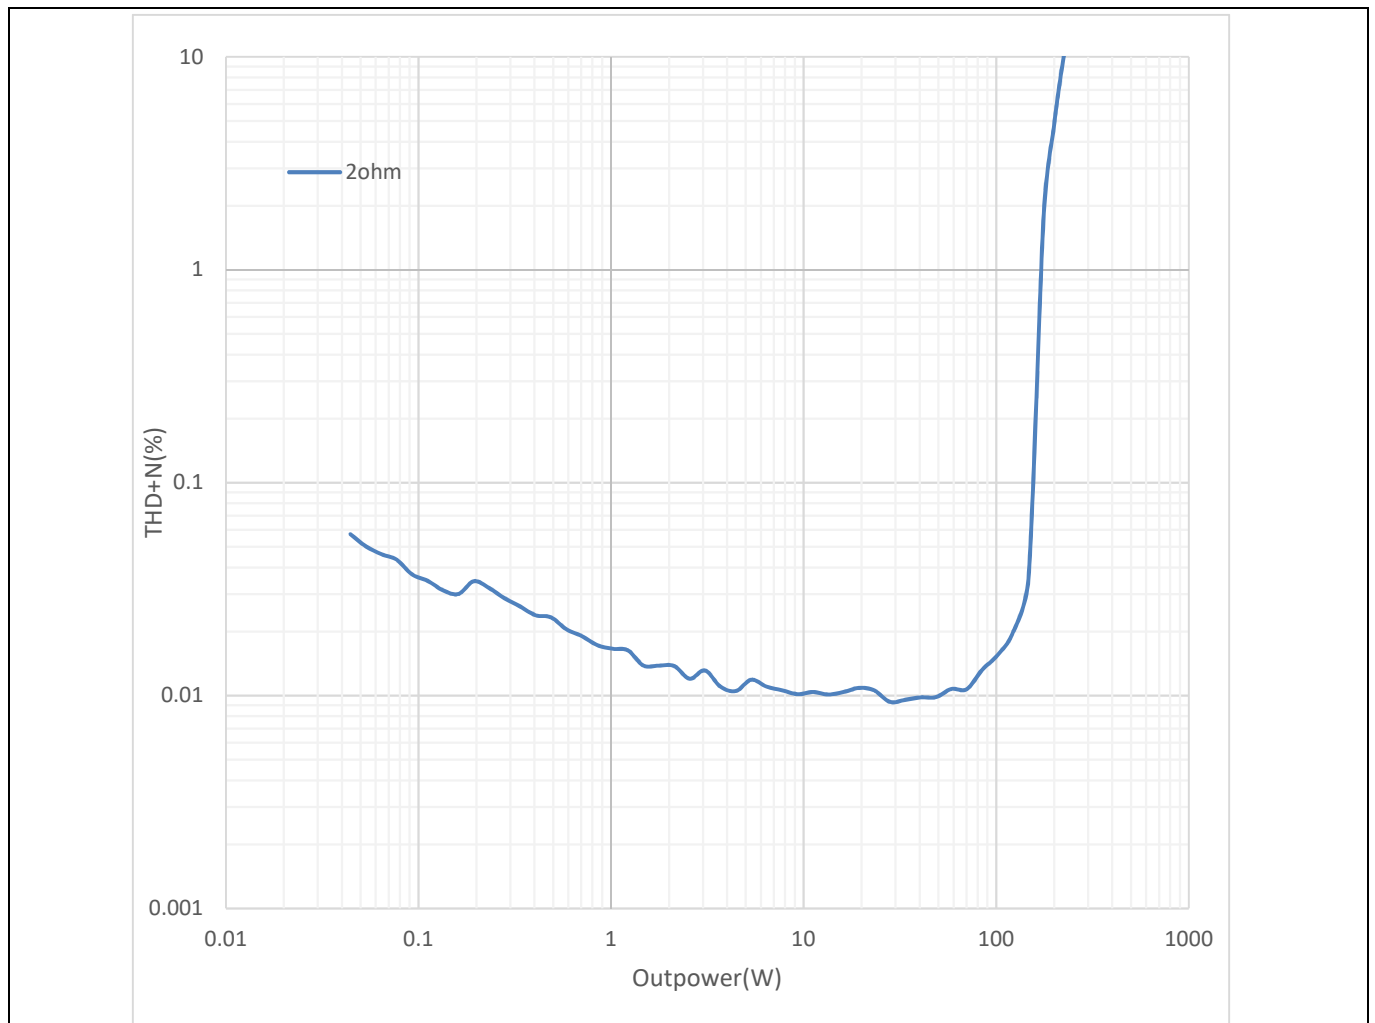

Figure 4 Power vs. THD+N 2Ω load
8. Run the AP tests as shown in Figures 4 to 11, below.